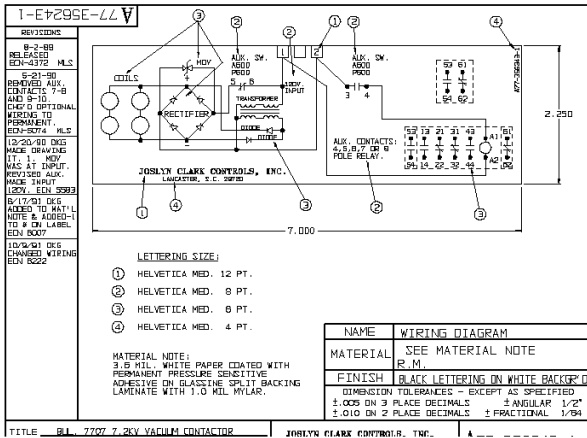
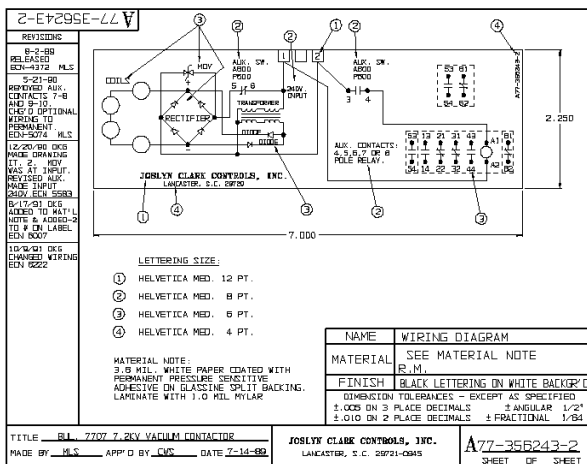

Fig. 6
Fig. 7
Contactors are available, suitable for 120V or 240 Ac 50/400 Hz input control supply. Voltages are **not** field re-connectable. The ac. supply is connected to terminals 1 & 2 (see Fig. 6 and Fig. 7 showing the diagram for 120V or 240V connections, respectively), which is shown in the decal on the contactor. Note the 100A contactor has two (2) modules and therefore twice as many aux. contacts are available; refer to the schematic below for full terminal data.